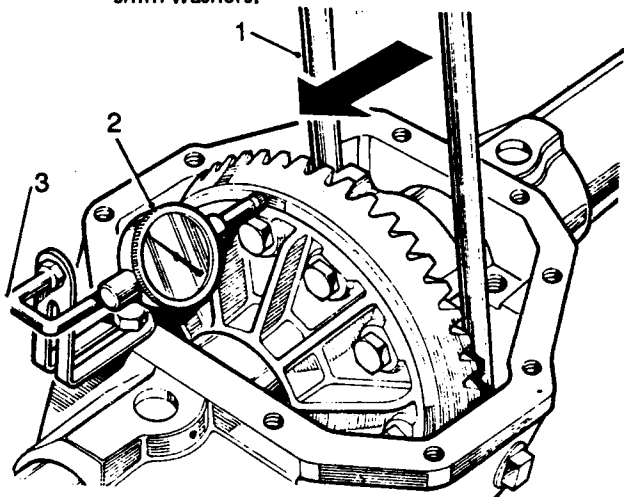

Fig J2.43
- (2) Refer to Fig J2.43. Fit the differential unit and lever the unit (1) away from the drive pinion until the opposite bearing cup is seated against the housing. Do not tilt the housing.
- (3) Using bracket 530106 (3) install a dial gauge (2) on the casing with its stylus resting on the back face of the crownwheel. Zero the gauge.
- (4) Lever the differential unit to engage the crownwheel teeth in full mesh with the drive pinion teeth. Do not tilt the unit.
- (5) Note the total reading obtained on the dial gauge.
- (6) From this figure subtract 0,25 mm to obtain the correct crownwheel backlash when fitted. The result indicates the value of shimming to be fitted between the differential case and the bearing cone at the crownwheel side of the differential.
- (7) Fit the shim value determined in step (6) taking the shims from the pack previously determined during 'Differential bearing adjustment' checks, (para 5). Use special tools 18G47BL details 1 and 2, press 18G47C, 18G134DP.
- (8) Fit the remaining shims to the opposite side of the differential using special tools 18G47BL details 1 and 2, press 18G47C and 18G134DP.